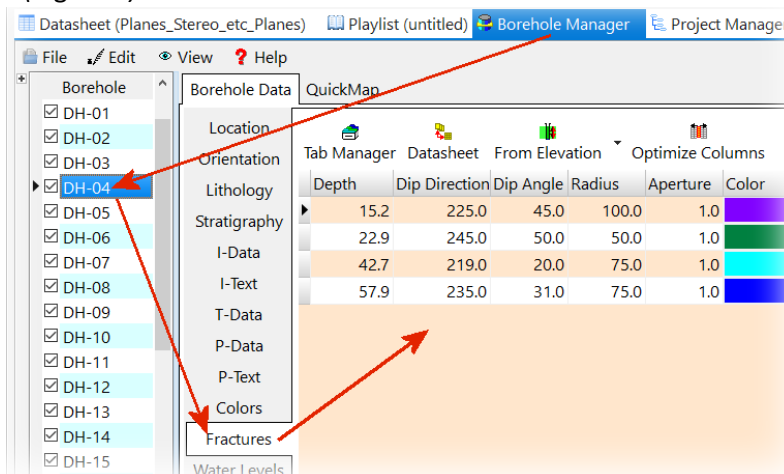

Figure 1
- Select the *Borehole Manager* tab from the main *RockWorks* menu, highlight the appropriate *Borehole*, and click on the *Fractures* tab (Figure 1).